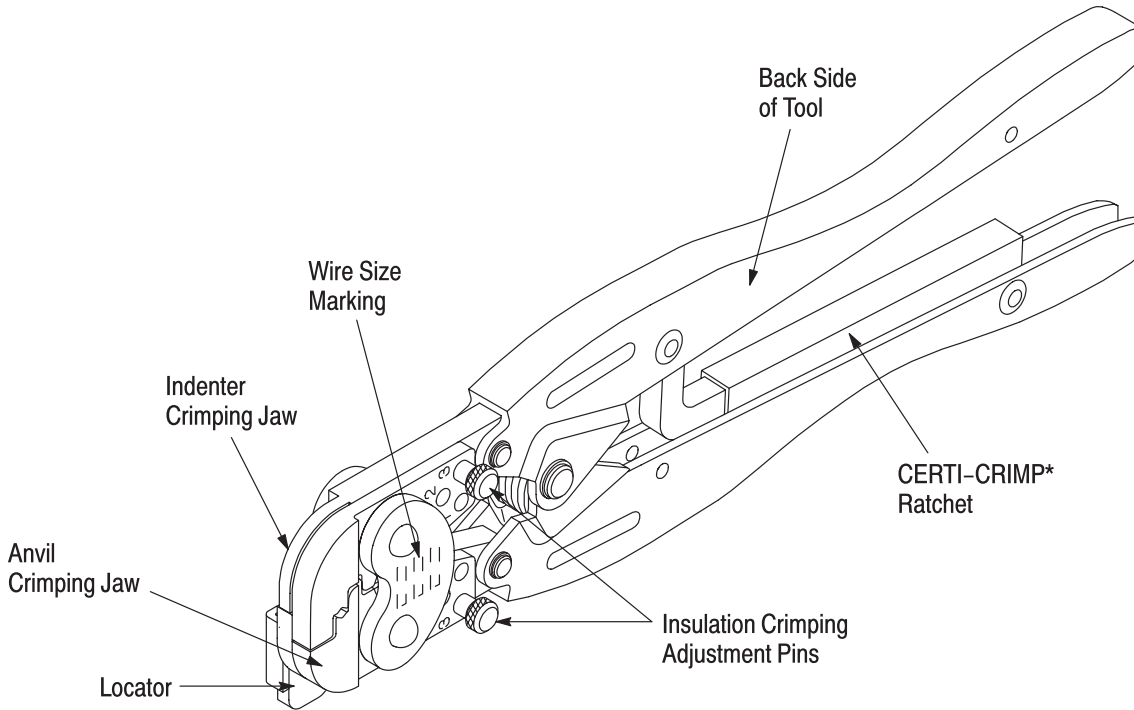

Figure 1
The CERTI-CRIMP ratchet assures full crimping of the terminal. Once engaged, the ratchet will not release until the tool handles have been FULLY closed. See Figure 1.
1. Insert insulation crimping adjustment pins into Position 3 as shown in Figure 1.